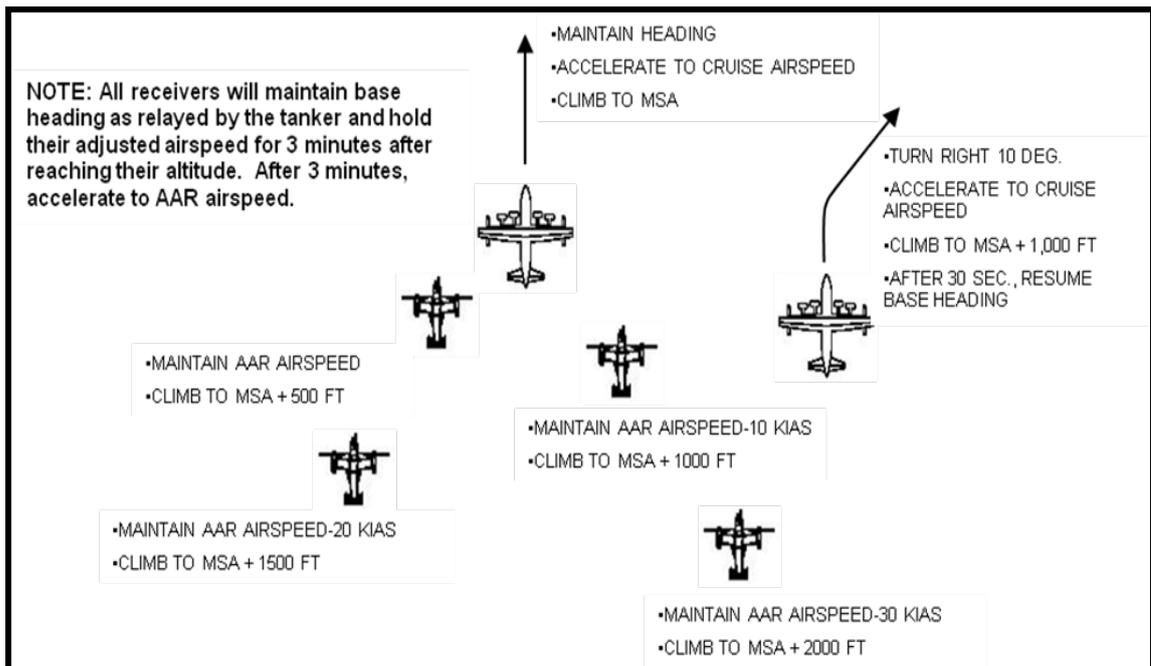

Figure 4-5. Lost Visual Contact Option 2 (Not to Scale)
- (2) **Simultaneous/Alternating Refuelling Operations Below MSA. (Fig 4-5).** For simultaneous/alternating refuelling operations, the following changes are made to the procedures in (1) above: After “LOST VISUAL CONTACT” is called:
- (e) **All Receivers.** All receivers are to maintain base heading and hold their adjusted airspeed for 3 min after reaching their altitude. After 3 min, all receivers are to accelerate to AAR airspeed (see Figure 4-5).